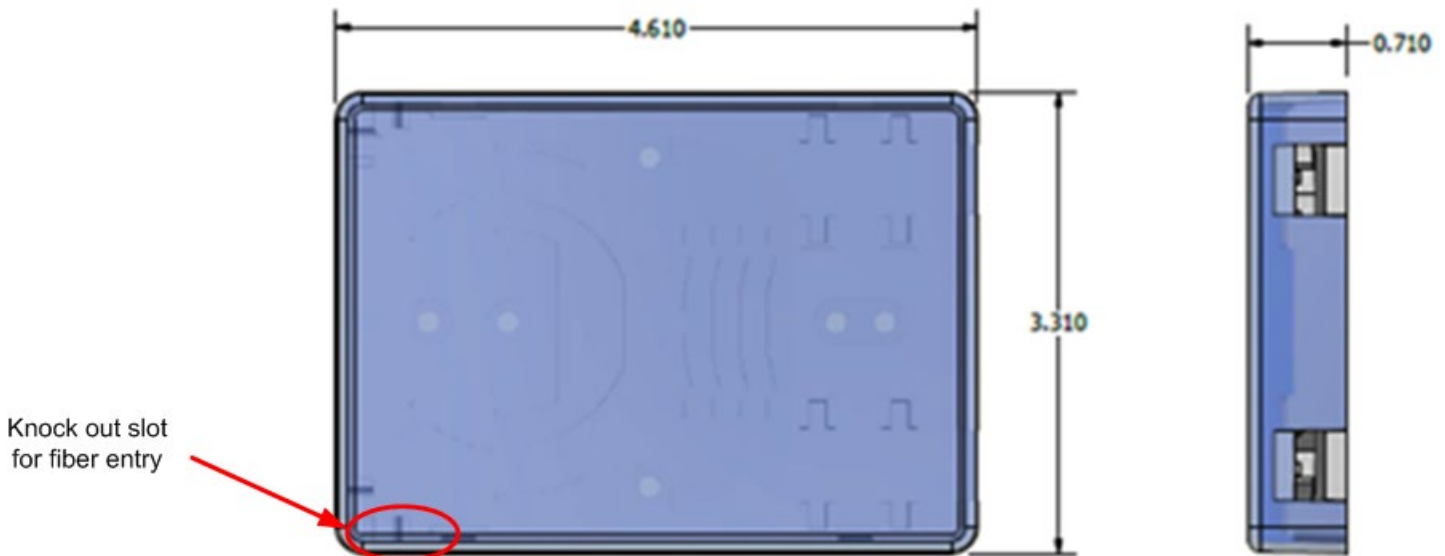

Fig. 1: Fiber Tray Dimensions
4. Use pliers to knock out bottom left tab to allow fiber input (circled in Figure 1 below).